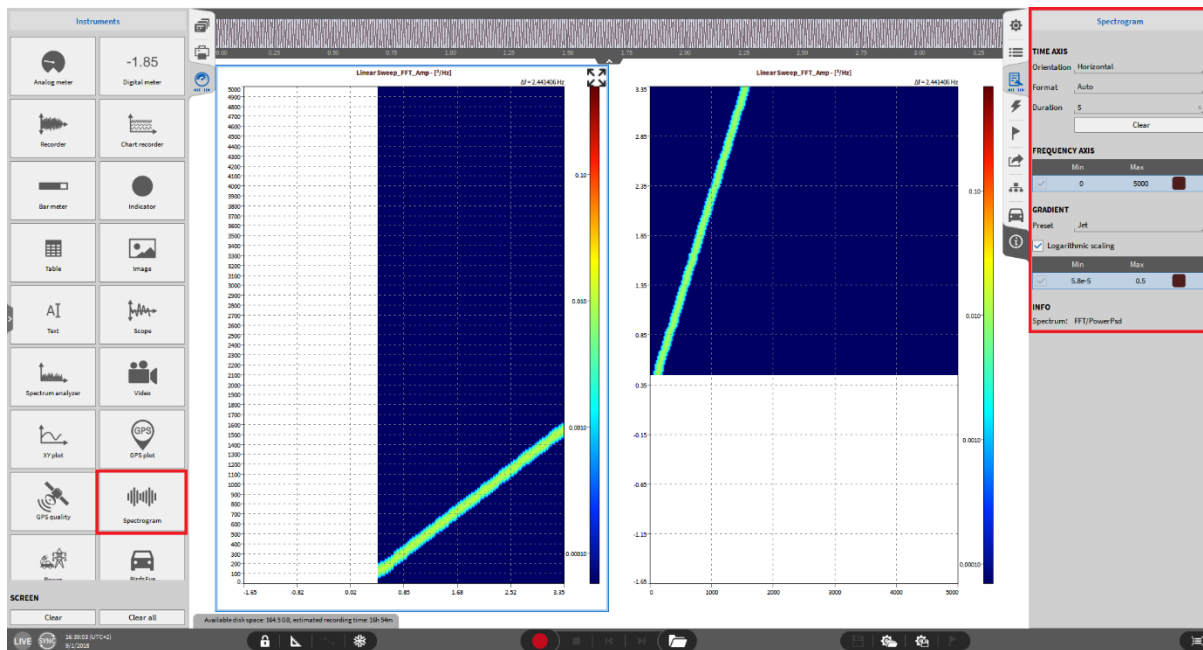

Figure 6-76: Spectrogram – Overview
The elapsed time is displayed on the X-Axis, the frequency on the Y-Axis and the amplitude of the signal is Color-Coded to the Z-Axis (Left instrument in Figure 6-76).
- Time Axis – Orientation: *Horizontal* orientation assigns the time axis to the X-Axis of the instrument (see left instrument in Figure 6-76) and *Vertical* orientation assigns the time axis to the Y-axis of the instrument (see right instrument in Figure 6-76).